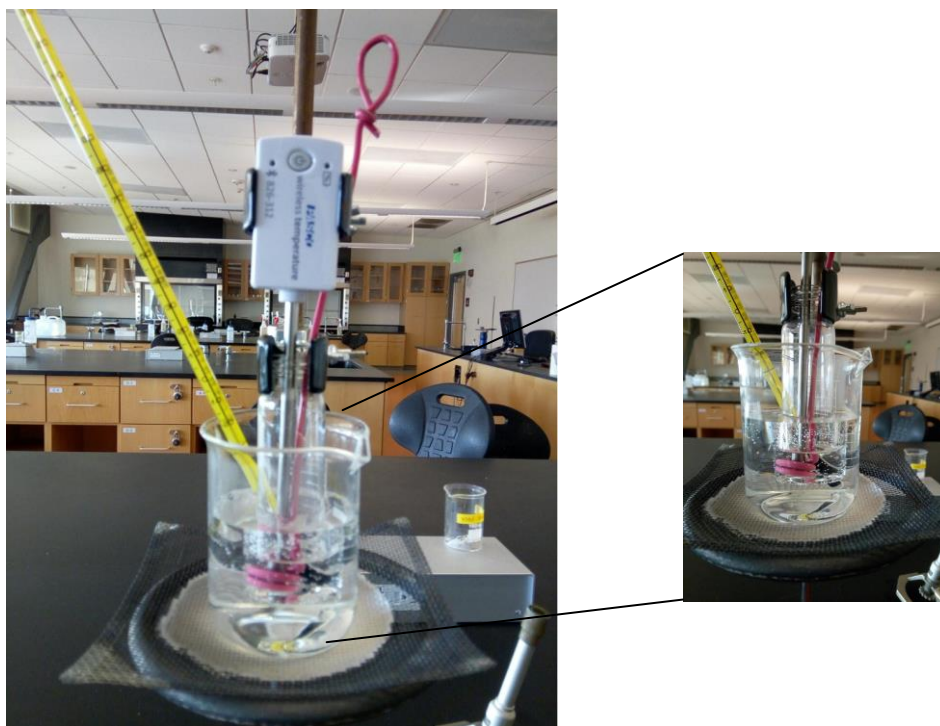
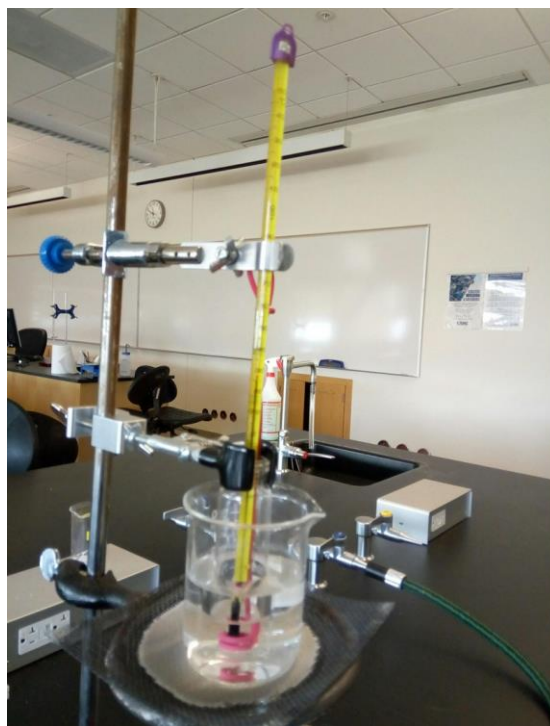

Figure 3. Final experimental set-up using a temperature probe.
Figure 4. Final experimental set-up using a thermometer.
5. After the stearic acid has completely melted, continuing heating until your water bath reaches 85°C (Remember no to go over 90°C). Turn off the Bunsen burner and place the temperature probe or thermometer (Figure 4) and mixing wire loop inside the vial with the sample as in Figure 3. The thermometer or temperature probe should remain in this test tube for the remainder of the experiment. Make sure the probe is immersed in your sample.